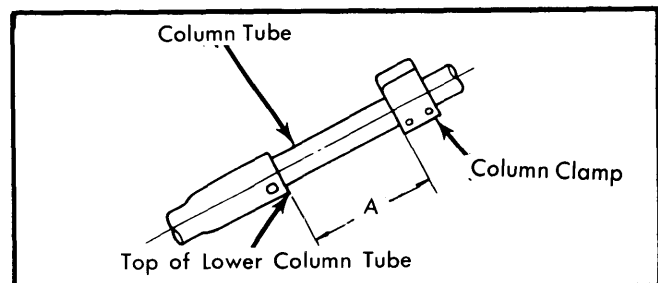

Fig. 2 Column Tube Measurement Specification
4) On all models except 810, measure distance between column clamp and top end of lower column tube. Distance should be 7.52" (191 mm) on 210 models or 7.24" (184 mm) on 510 models. Distance for 200SX manual steering should be 7.05" (179 mm) and 7.09" (180 mm) for power steering. See Fig. 2.